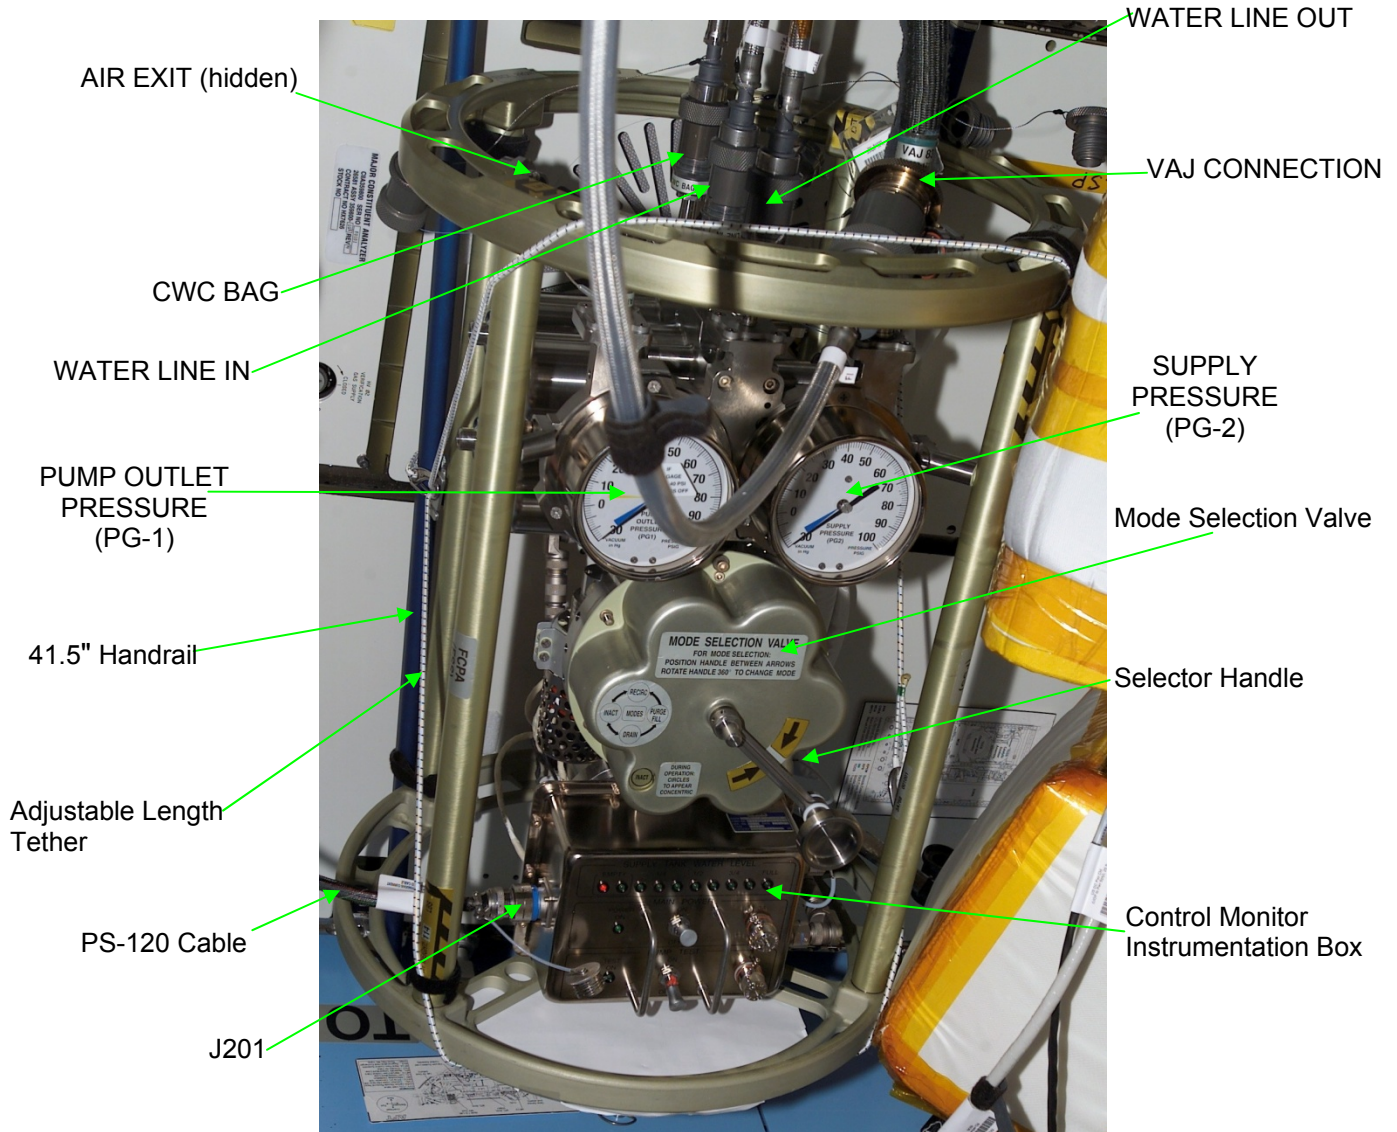

Figure 1.- Fluid Control Pump Assembly (FCPA).
- NOD3 1.1 Install 41.5\" Handrails (two) on seat tracks, in parallel, 6 to 8 inches apart, per crew preference. Refer to Figure 1.
Refer to Figures 1, 2.
Refer to Figures 1 and 2.